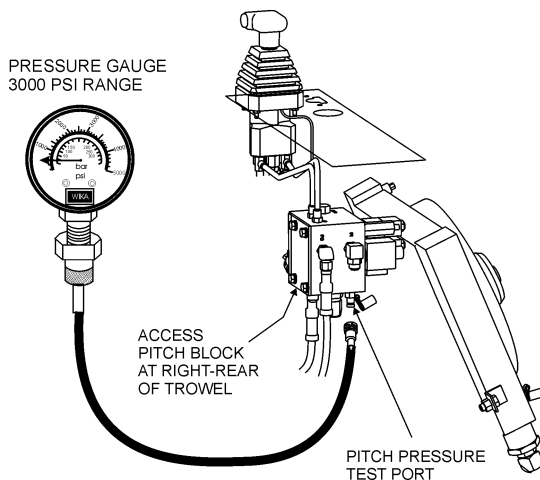

Figure 30. Pitch Pressure Check
1. Install 3000 PSI range pressure gauge to pitch pressure test port on pitch block (Figure 30).
2. Install 3000 PSI gauge to pitch pressure test port on the pitch block (Figure 30).